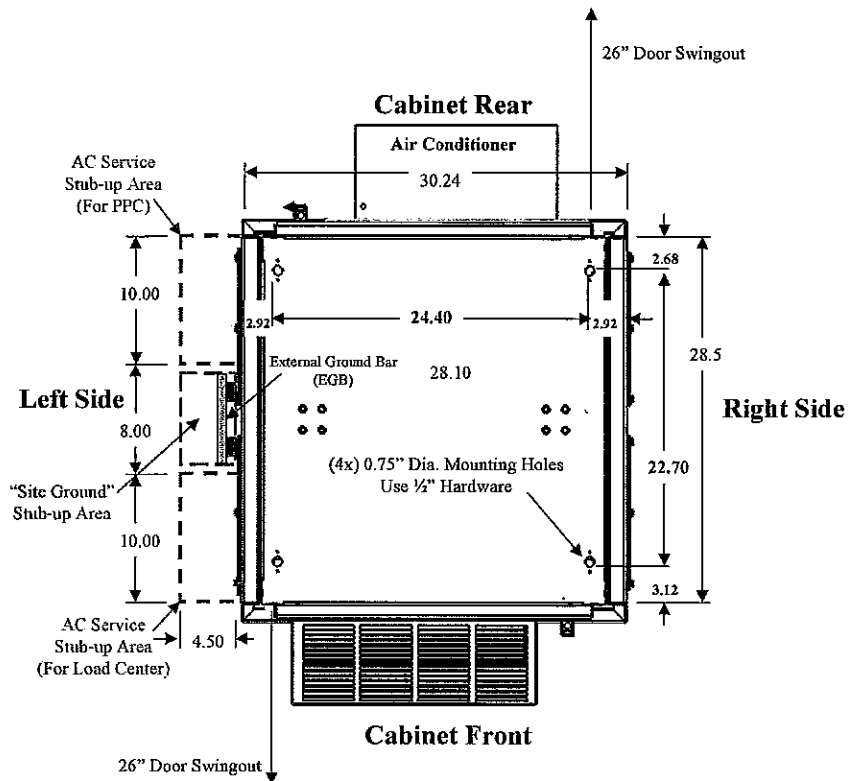

Figure 2: RAC68BB Pad Layout. (All dimensions are in inches. View is looking down onto pad.)
Figure 2 below shows the pad layout for mounting hardware for the RAC68BB battery cabinet. The cabinet can support up to 4 strings of 48VDC, 170Ahr batteries for a combined weight of ~2500 lbs. The bottom area of the cabinet is ~6.03 ft2 which means that the pad (or supporting structure) **must be designed to support 415 lbs./ft2 minimum:**
1. Install 1/2" mounting bolts (extended 2" from the pad surface) in the pad according to the layout in Figure 2 (use dimensions in RED Text).
2. All necessary grounds for future equipment to be installed in the Equipment Compartment should be bonded to the MGB (see Figure 2) via 2-hole lugs (5/8" centers, 1/4"x20 stainless steel hardware) or the rack rails.
3. A ground riser from the site "Single-Point Ground" (e.g. buried ring) should be stubbed up below the EGB on the left side of the cabinet (See the area on the center left side with the green dashed lines in Figure 2). This riser is typically a #2 AWG solid tinned-copper conductor.
1. Install adequately sized conduit & fittings from the previously installed utility service stub-up area (See Figure 2) and connect to the PPC through a field-punched cut-out in the left side or bottom.
1. A 2-pole breaker in an upline cabinet should feed a 240/120VAC service (Line1, Line2, Neutral & Ground) to the RAC68BB cabinet through conduit that has been stubbed up below the AC load-center as seen in Figure 2. Size the feeder breaker according to the application (may range from 20A [48V battery boxes only installed] to 100A [internal DC Plant installed to power external amplifiers]).